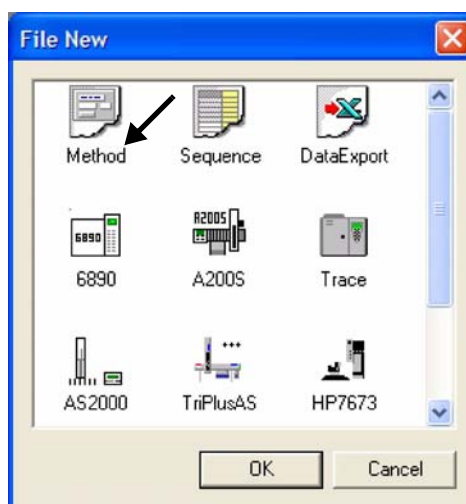

Figure 3-25. Creating a new method
4. Press the **New** button to display the File New dialog box. See Figure 3-25.